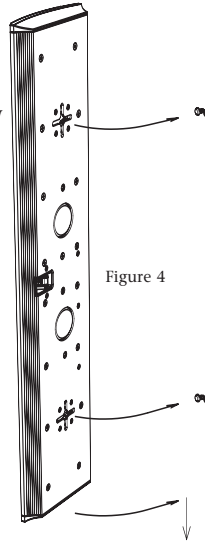

Figure 4
- Line up the speaker so that the screws enter the center part of the + shaped channels; slide the speaker down so that the screw heads hold the speaker in place. [Figure 4]